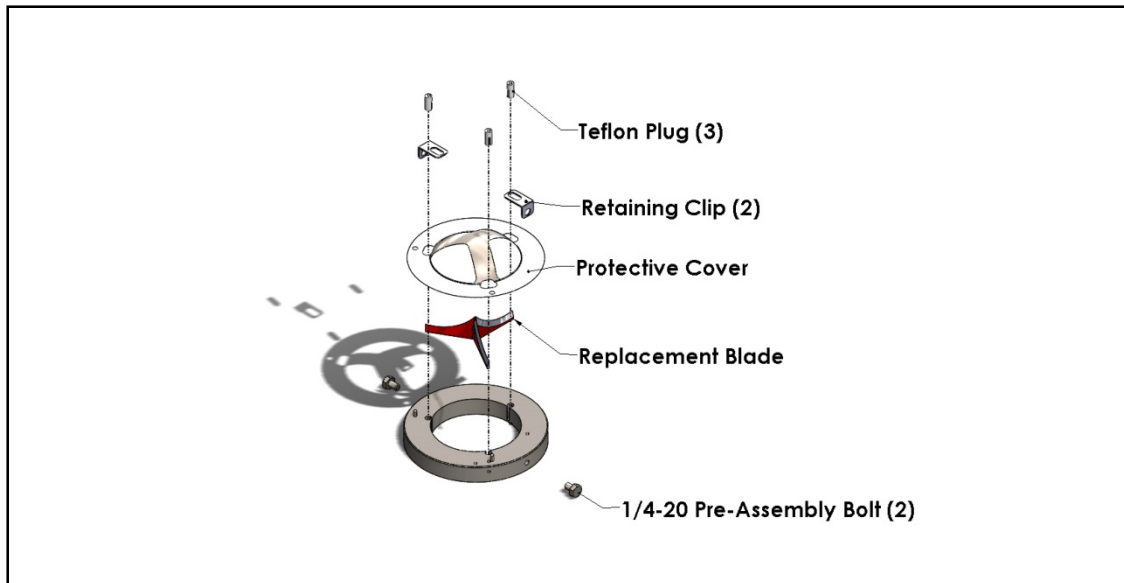

FIGURE 1.5
- 1) The functionality of the Z-Pos / Z-Vac holder is dependant on the sharpness and integrity of the blades. Removal and replacement of the blade assembly should be carried out as follows (See FIGURE 1.5):